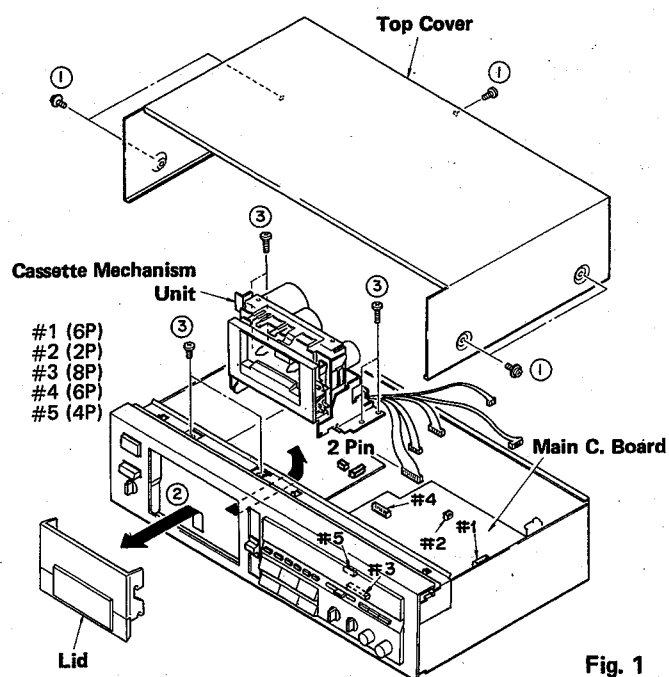

Fig. 1
- 3 MAIN C. BOARD (1)
- 4 MAIN C. BOARD (6) (Output Level)
- 5 MAIN C. BOARD (7) (Phones)
- 7 MAIN C. BOARD (4) (MASTER FADER)
- 8 MAIN C. BOARD (3)
- 9 MAIN C. BOARD (5) (PLAY TRIM)
- 10 MAIN C. BOARD (2)
- a. Remove 5 screws (①) in Fig. 1.
b. Remove the Lid (②) in Fig. 1.
c. Detach 5 connectors (#1 ~ #5) in Fig. 1.
d. Detach 1 connector (2 pin) Power Transformer Unit in Fig. 1.
e. Remove 6 screws (③) in Fig. 1 and then pull off the mechanism unit to the back side gently.